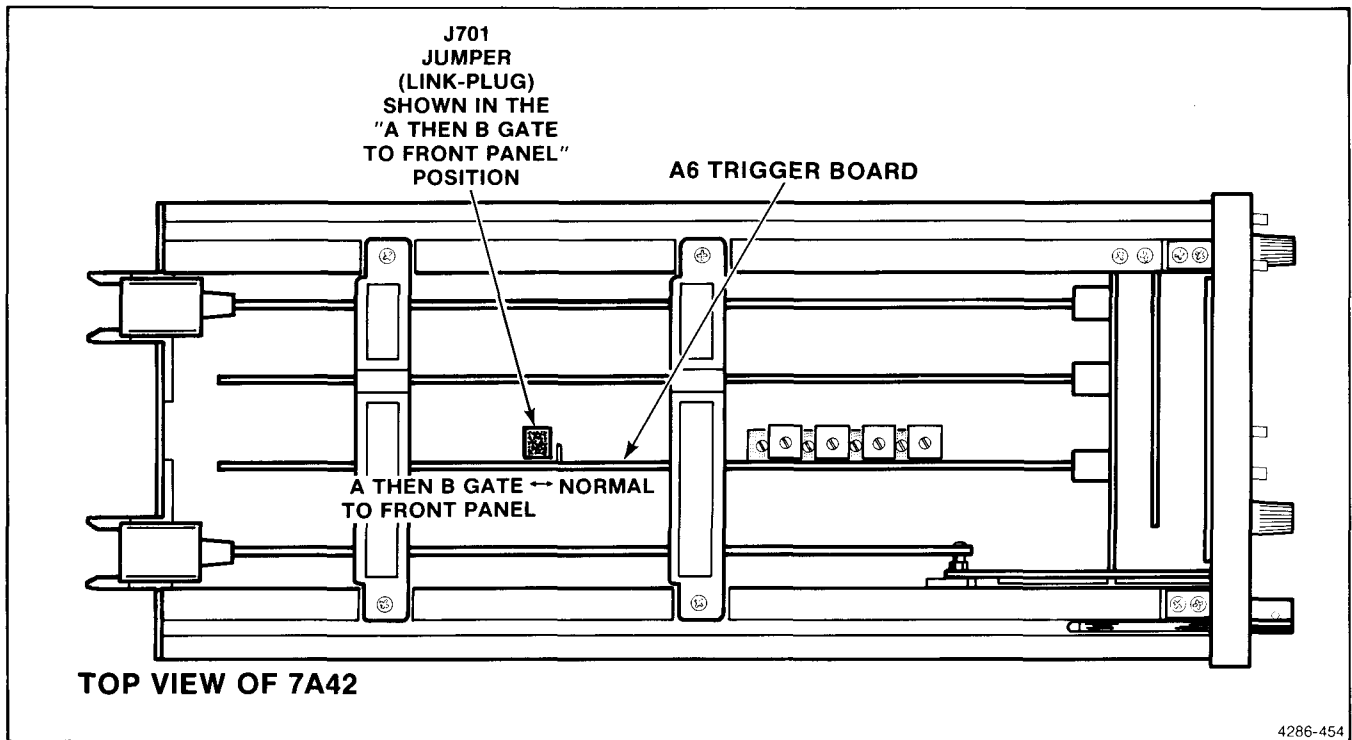

Figure 4-14. Location of J701 (Link-Plug) on the A6 Trigger Board.
- z. Move the J701 link-plug back to the Normal position (refer to Fig. 4-14).